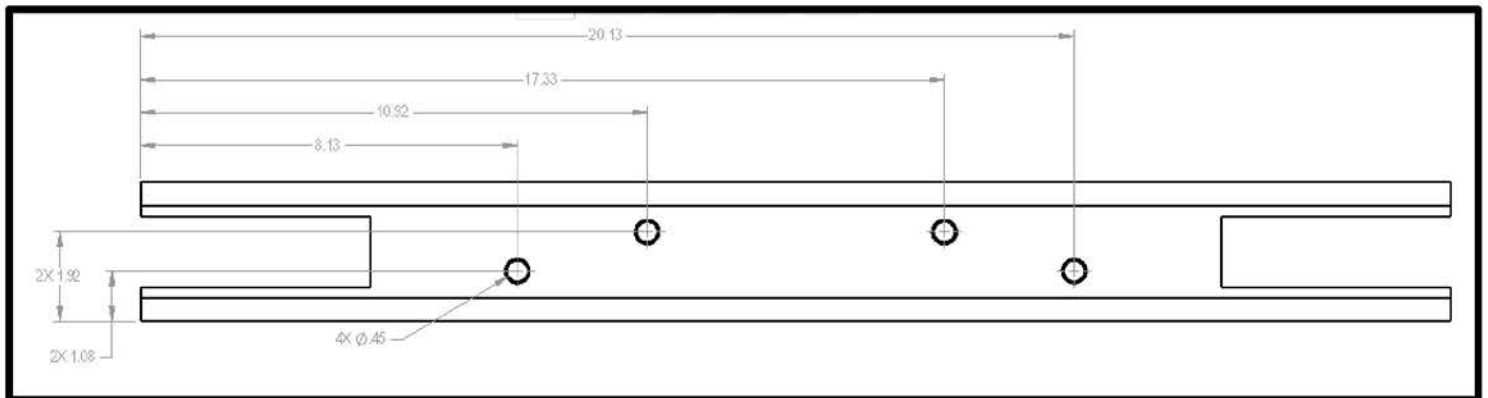

FIG. 2-1
2. With 1/4" drill bit, drill out all four zerts i.d.'s clear through opposite side of cross member. Refer to FIG. 2-1.